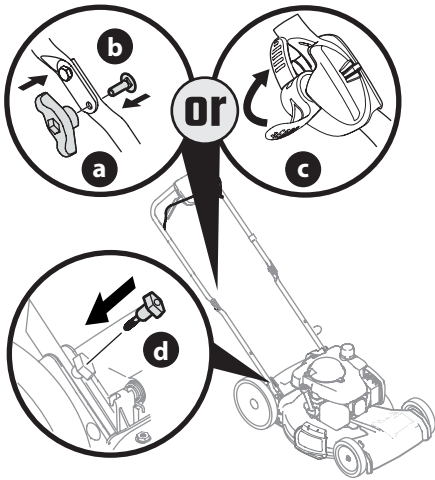

Figure 8
4. Reattach knobs or wing nuts (a) and carriage bolts (b) removed in STEP 1 into lower holes of the handle or lock the EZ-fold handle release levers (c) (Figure 8).
5. Using the T-bolts (d) removed in STEP 2, secure the lower handle to the handle brackets (Figure 8) and tighten securely to secure the handle in place.